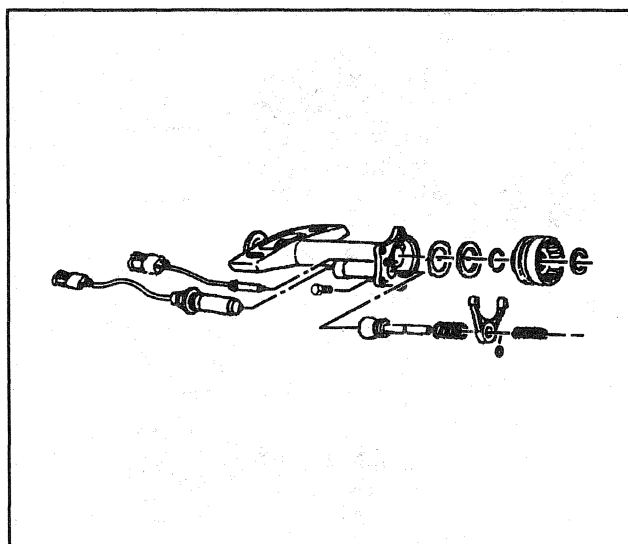

Figure 8—Right Axle Tube (K3 Models)
10. Snap ring and washer and thrust washer (K3 models) (Figure 8).